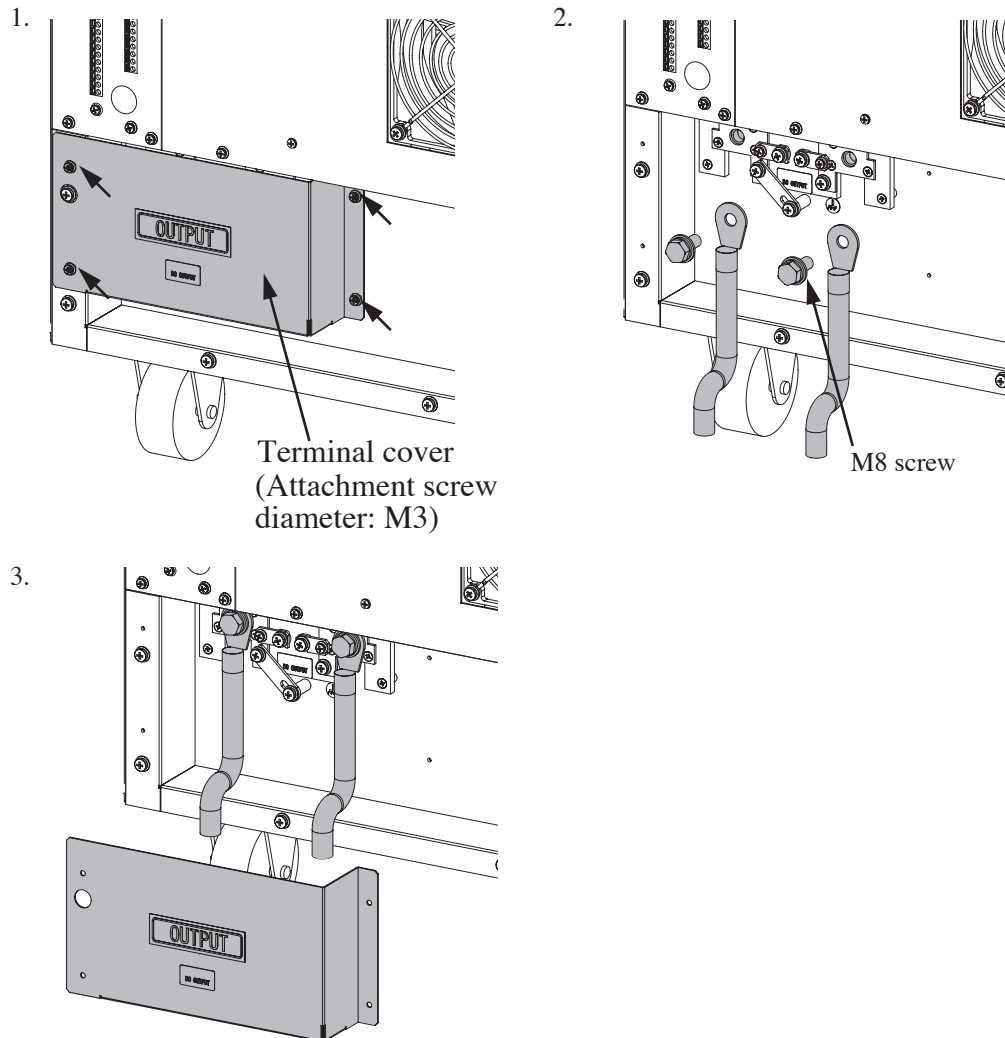

Fig. 3-4 Connecting to the output terminals (Type IV model)
1. Remove the terminal cover. (See Fig. 3-4 for the following procedure.)